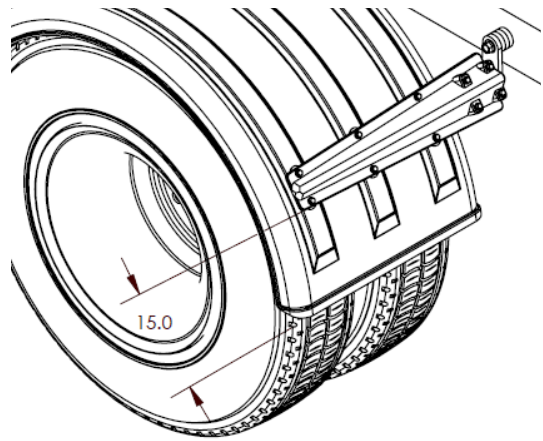

Figure 6
- D. If possible, position the mounting brackets so they are located within 15" of the bottom of the fender. This protects against wind blowing the leading edge of the fender back into the tire (Figure 6).